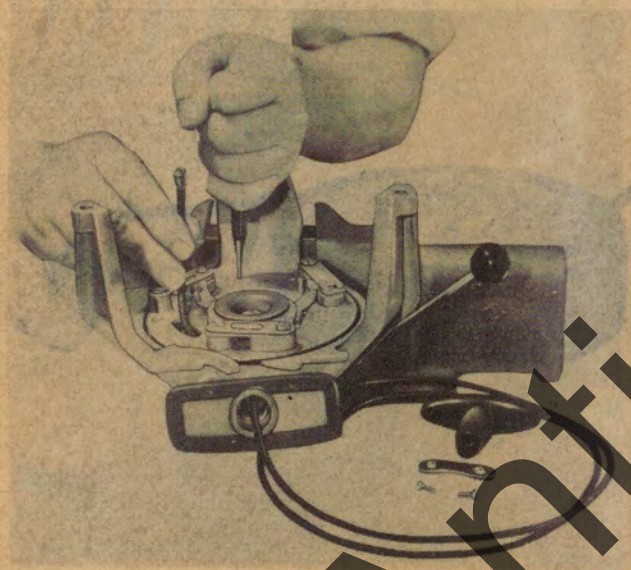
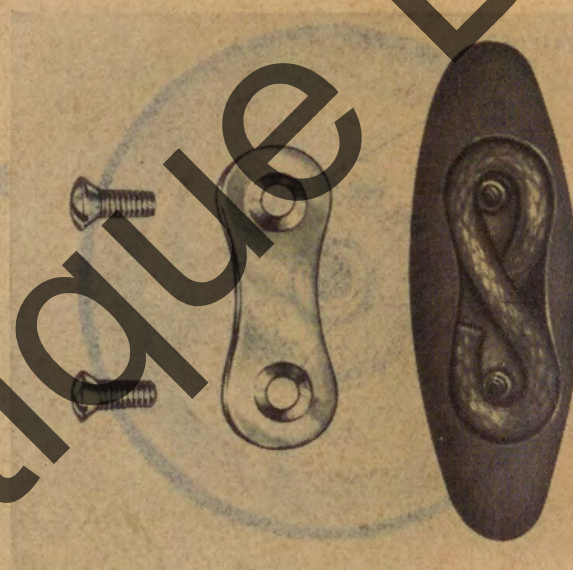

Figure 29
Figure 30
2. Place starter assembly in vise as illustrated (Fig. 29).
5. Insert punch in hole of pulley provided for this purpose. Turn pulley against tension of spring until all of the tension is taken up, then permit pulley to unwind one (1) full turn.
7. Attach grip to cord as shown (Fig. 30).